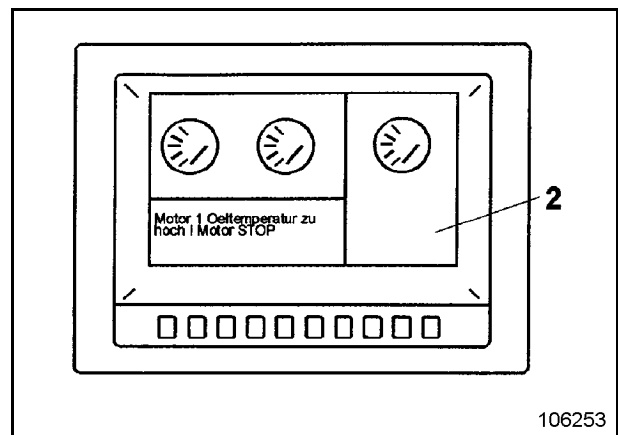
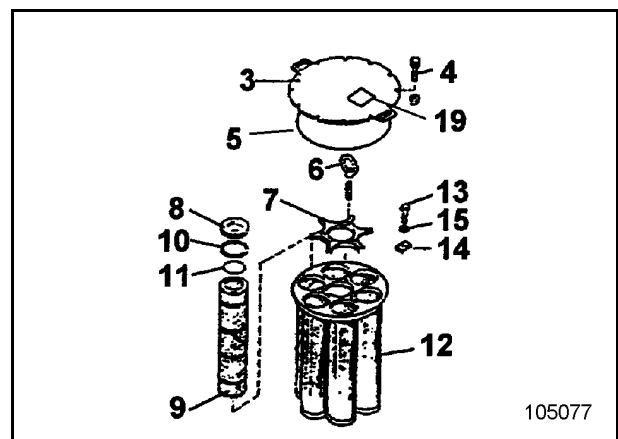

Fig. 3-76:
Fig. 3-77:
- when the BCS displays a warning on the screen (2, Fig. 3-76:). In this case, the filter elements (9, Fig. 3-77:) are heavily contaminated;